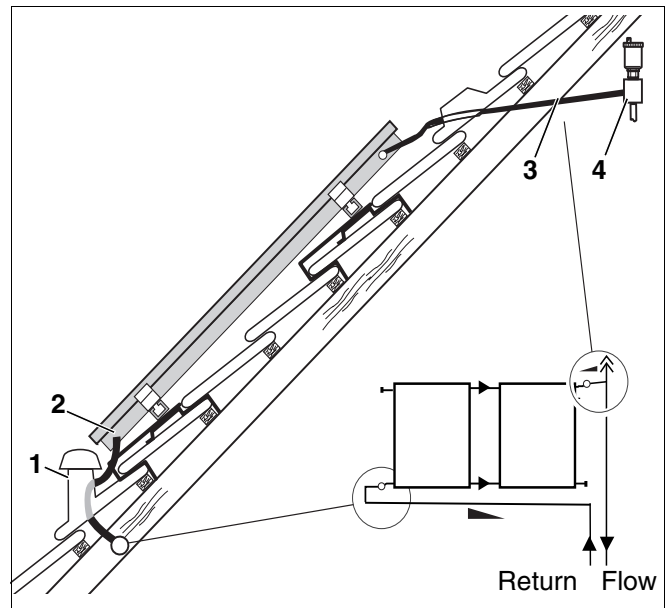

Fig. 44 Position of air vent with bleeder
- ▶ Connect the system to the air vent (Fig. 44, **Item 4**) in the flow (Fig. 44, **Item 3**) at the highest point of the system with the supplied hose coupling.